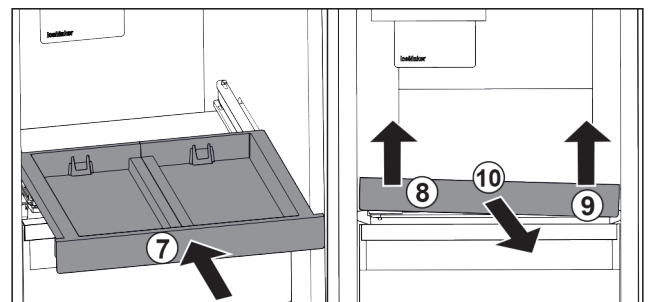

Fig. 171
- ▶ Slide in the pull-out board. Fig. 171 (7)
- ▶ Lift the pull-out board on the front left. Fig. 171 (8)
- ▶ Lift the pull-out board on the front right. Fig. 171 (9)
- ▶ Take out the pull-out board to the front. Fig. 171 (10)